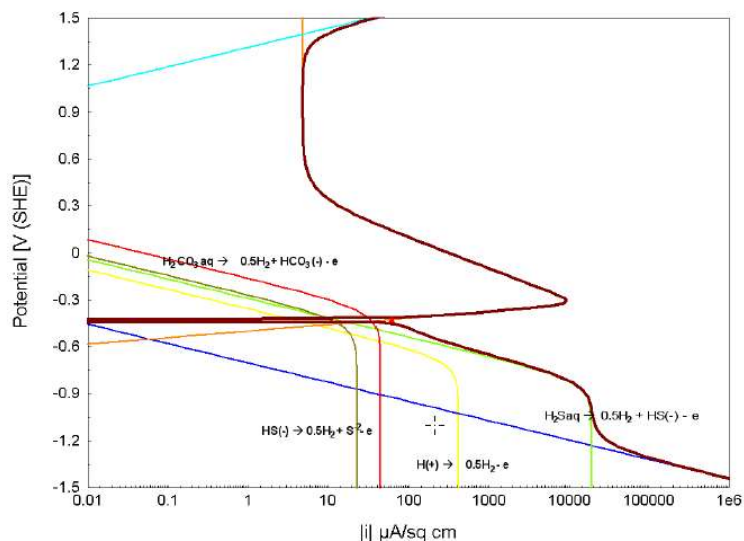

Figure 5. Polarization curves for carbon steel in an environment saturated with CO₂ and H₂S.
The below figure shows the addition of reactions (15) and (16) to the model. The addition pushes up the rate of corrosion and moves the corrosion potential towards a more anodic value. As more components are added, more reactions influencing corrosion may be added to the mixed potential expression. For instance, Figure 5, shows the addition of H_2S to the system at conditions of saturation and higher temperature. Also note that the changes in conditions affect the corrosion (anodic) polarization shape.
As the potential is increased to a high anodic value, other anodic reactions may become substantial enough to affect the net current. The transpassive region is the section of the curve anodic to the corrosion potential where the current density increases again after having been flat for a range of potential. In the case of the curve plotted in Figure 5, the reaction is the oxygen evolution reaction for the breakdown of water. In other words, the water stability limit is reached.
Figure 5 shows three reactions where hydrogen ions are consumed at the metal surface, and none are produced. As the mass transfer limitation is approached, the pH will rise because fresh hydrogen ions will not be able to diffuse fast enough to replace what is lost through the partial processes.